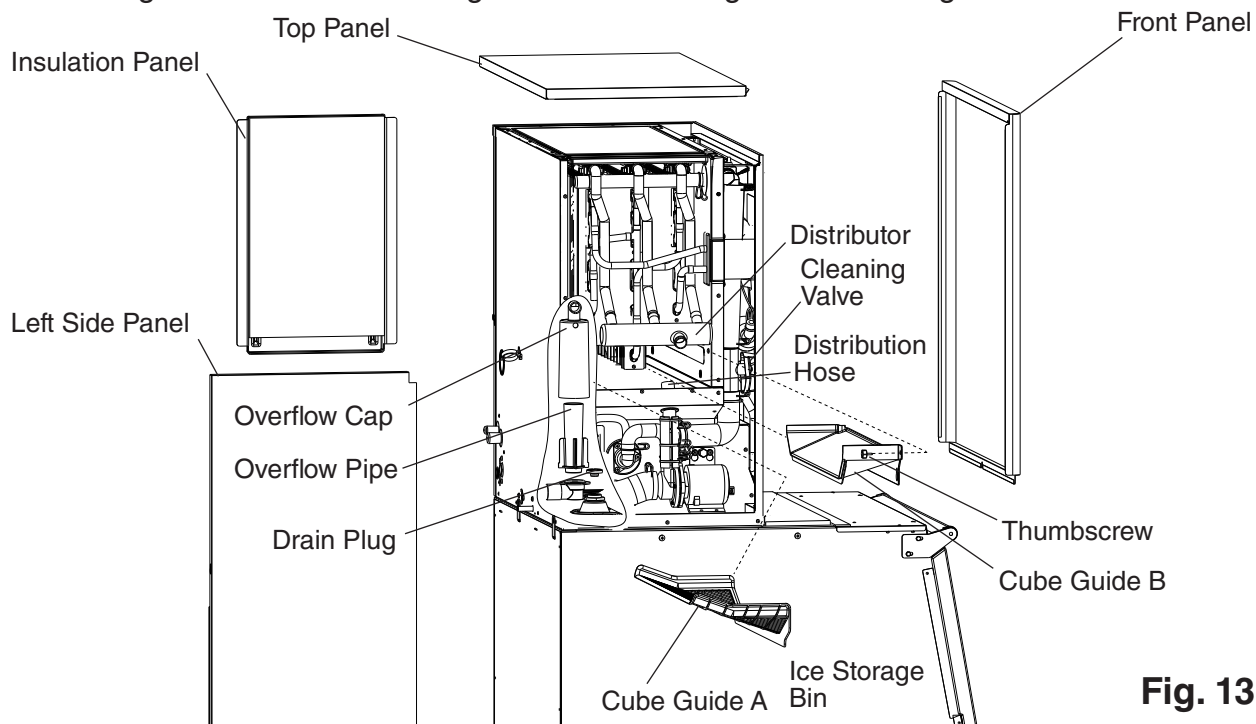

Fig. 13
- 8) Disconnect the distributor from the distribution hose. Remove the thumbscrew securing cube guide B. Remove cube guide B and cube guide A. See Fig. 13.